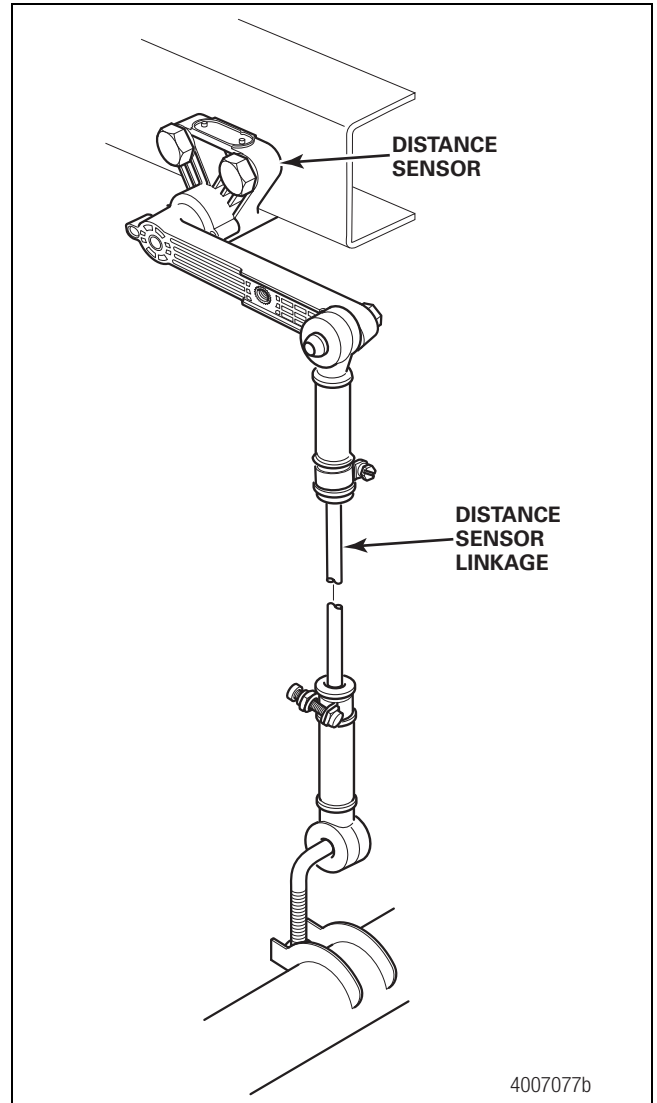

Figure 30
- B. The WABCO Distance Sensor must be attached to the trailer structure directly above the axle, close to the axle's center. Figure 30.
The Distance Sensor is mounted to the cross member above the axle. Figure 30. It must be mounted directly to the trailer structure. If needed, a steel bracket may be fabricated and then welded to the cross member, in order to bring the Distance Sensor to the appropriate mounting height. The distance sensor should be mounted close to the center of the trailer.